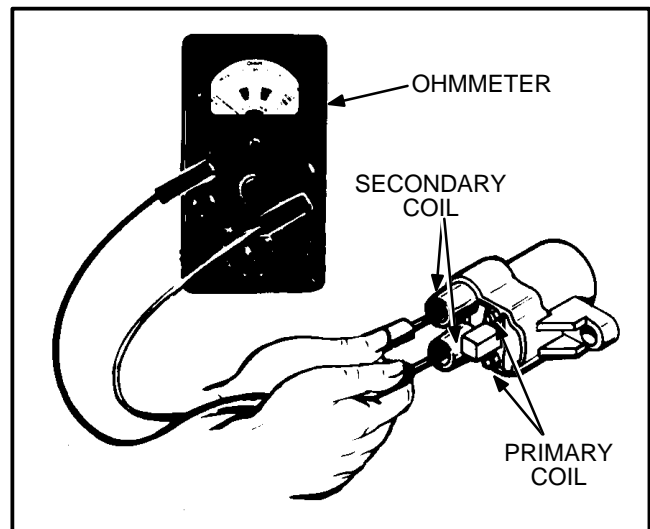

FIGURE 8-3. COIL TEST
2. Place the black lead on the negative (-) coil terminal and the red lead on the positive (+) coil terminal. Primary resistance should read between 2.90 and 3.60 ohms. See Figure 8-3.
3. Change the resistance setting on ohmmeter. Place ohmmeter leads inside of the spark plug cable holes as shown in Figure 8-3. Secondary resistance should read between 14,500 and 19,800 ohms